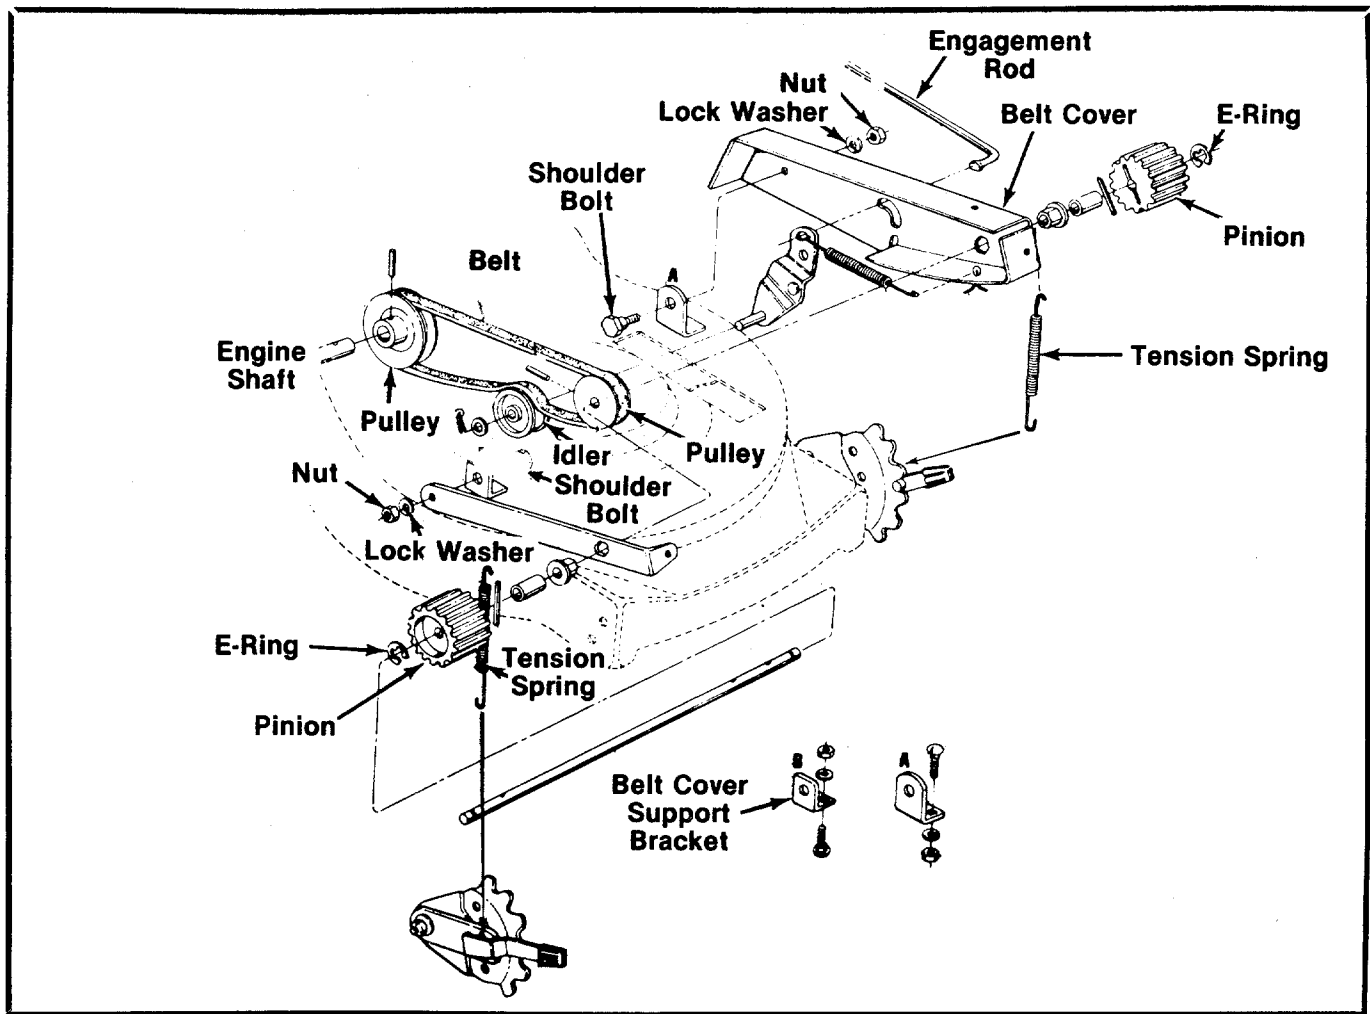

FIGURE 17.
BELT REPLACEMENT (See Figure 17)
2. Remove both tension springs. See figure 17.